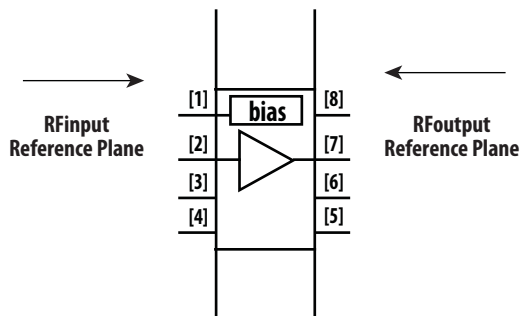

Figure 20
2. Measurements are conducted on 0.010 inch thick ROGER 4350. The input reference plane is at the end of the RFin pin and the output reference plane is at the end of the RFout pin as shown in Figure 20.